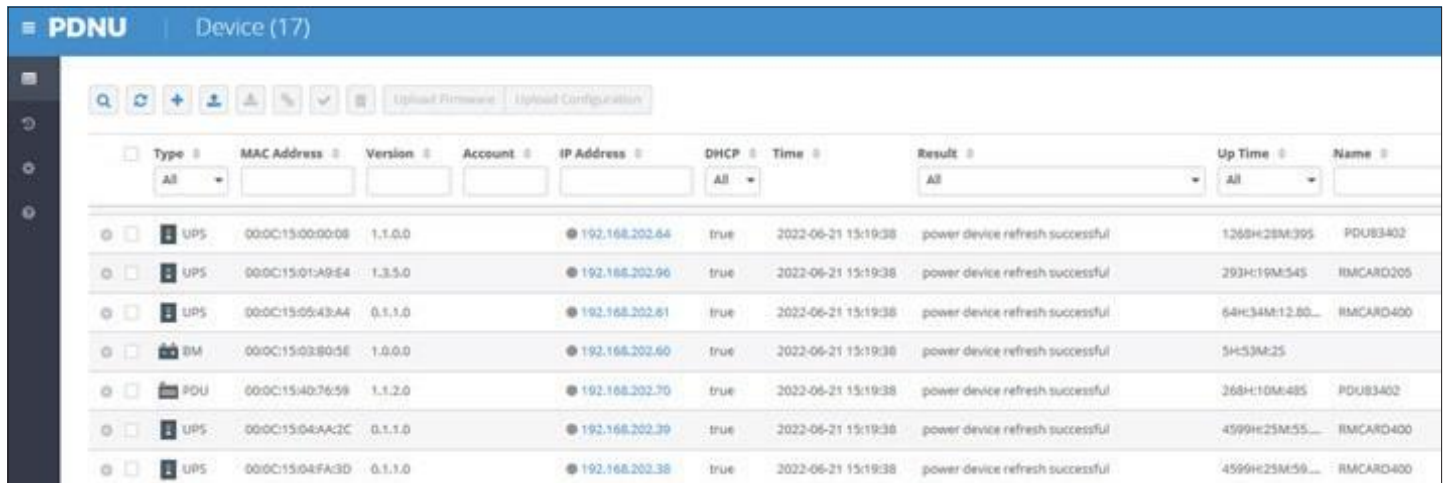

Figure 1. The main window of the “Power Device Network Utility 2” program.
- 3. The main window of the Power Device Network Utility program is shown in Figure 1. The configuration tool will display all CyberPower Remote Management devices present on the local network subnet. The "Refresh" button is used to search the local network subnet again.